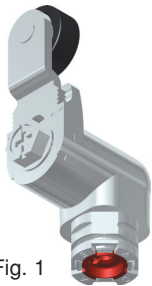

Fig. 1
- 1- (Fig. 1) LC1J1: angular head provided with ring dial (positioned at its base). Turning the ring to set up a new direction to operation the lever. The following operations are possible: